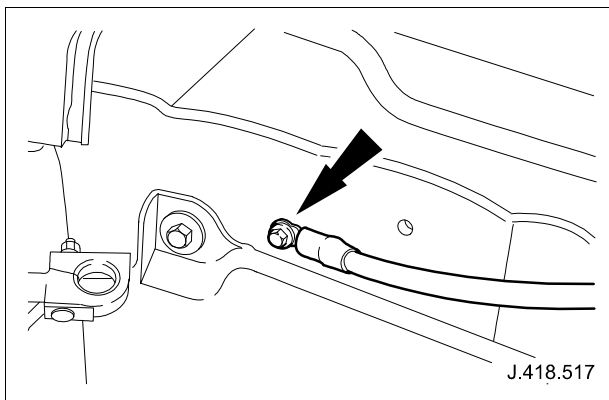

Fig. 3
2.1 Check battery lead to rear body ground point fixing bolt, as shown in Fig. 3.